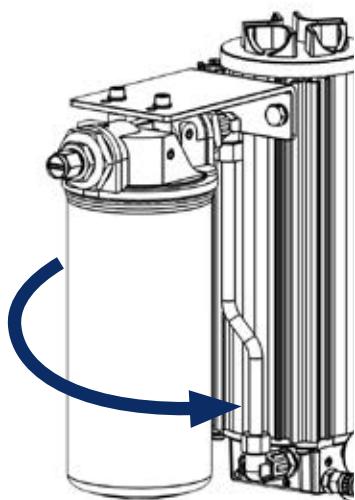

Fig. 12
- ▶ Close anti-clockwise and tighten new watersorb element by hand, do not over tighten! (see Fig. 12)